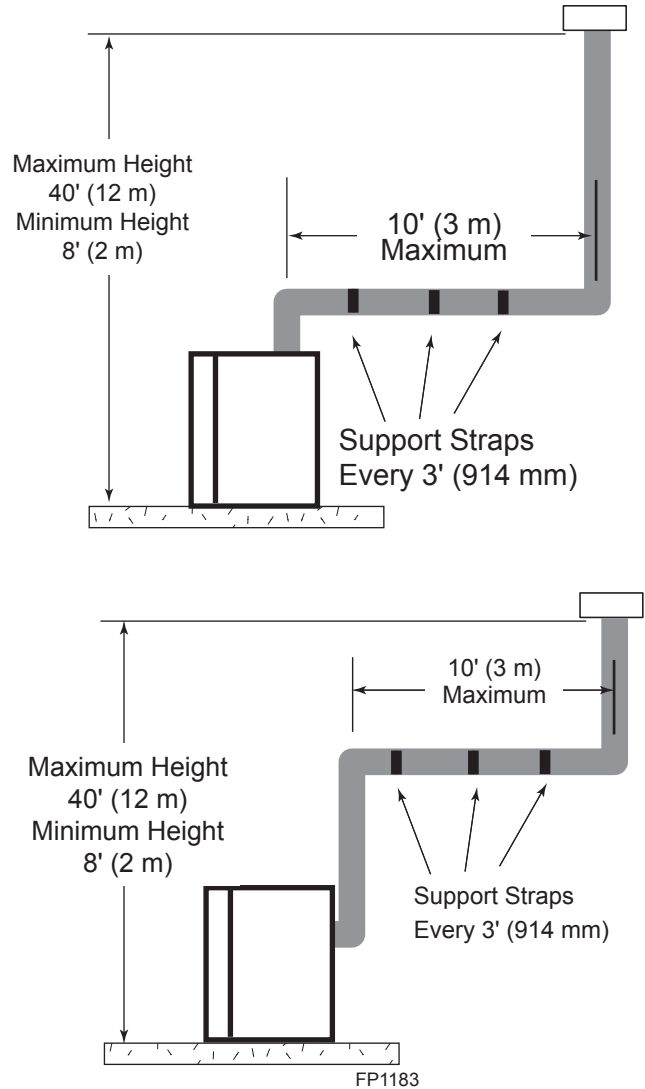

Figure 30 - Support Straps for Horizontal Runs
- Vertical installations up to 40' (12 m) in height. Up to a 10' (3 m) horizontal vent run can be installed within the vent system using a maximum of two 90° elbows. *Figure 30*